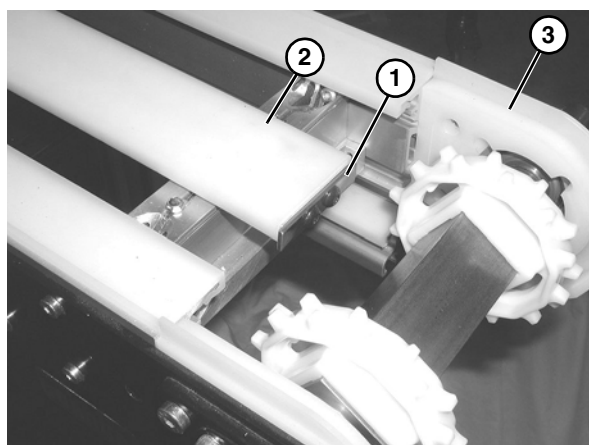

Figure 23
*The stop plate (**Figure 23, item 1**) on the center wear strip (**Figure 23, item 2**) faces the drive end (**Figure 23, item 3**) of the conveyor.*